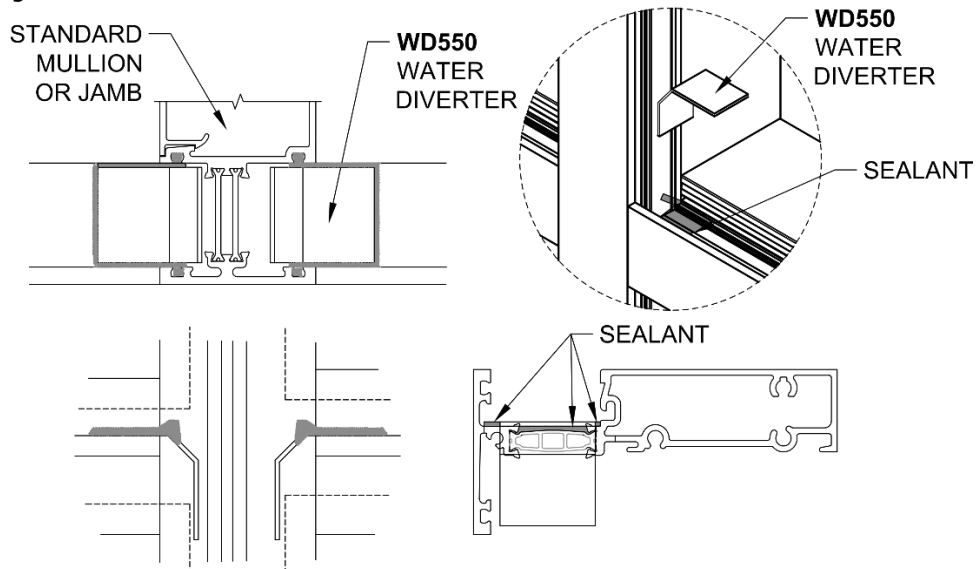

Figure 83: Water Diverter Installation
25.1 At Standard Mullions and Jambs, install Water Diverters. Place a bed of sealant on the end of the Horizontal and place the Water Diverter. *Figure 83* shows the various views for the Water Diverter installation. Embed the Water Diverter in Sealant and seal around the Horizontal to guide water flow.